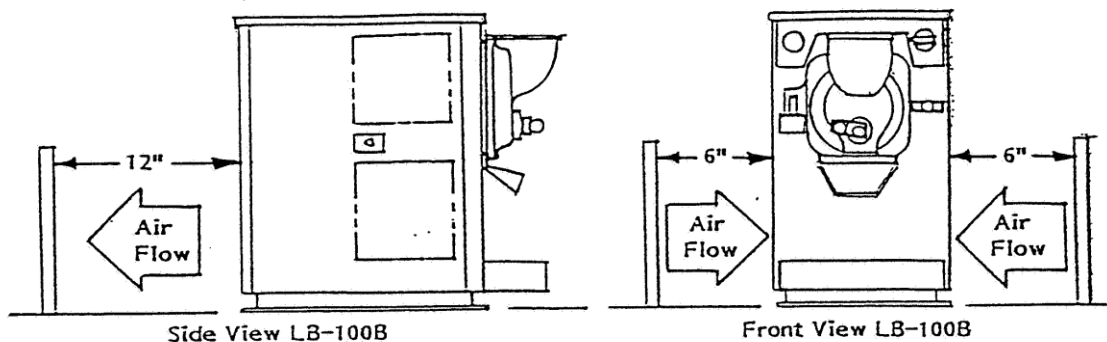

FIGURE 1
1. The machine is now ready to be positioned onto your counter. The counter must be capable of supporting 225 lbs., and should be vibration free. Reinforce it if necessary. Remember, when choosing a location, your unit is air cooled, proper air flow will need to be maintained. Allow at least six (6) inches on either side and a minimum twelve (12) inches between the rear of the machine and any obstruction. (Ref. Fig. 1)